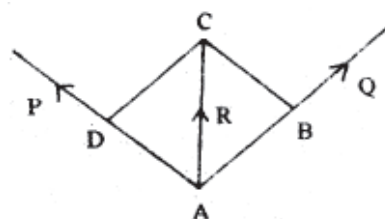

Fig. 5.6
- xi) Remove the sheet of paper. Join the marked points to show the direction of forces (Fig. 5.6).